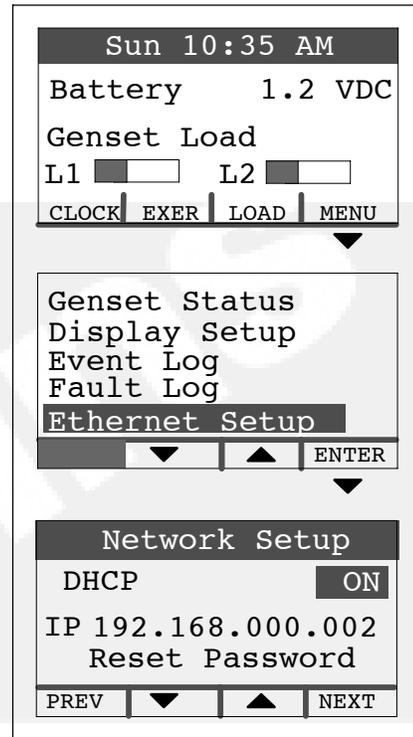

FIGURE C-2. NETWORK SETUP SCREEN ON THE IN-HOME OPERATOR PANEL
2. Write down the IP Address shown on the Network Setup screen (Figure C-2) on the generator set's in-home Operator Panel. (Note: Leave DHCP on.) Add this *Generator In-Home IP Address* to the Information Sheet located on page B-5 of the Operator Manual or page C-5 of the Installation Manual under "Internet Access to Generator Set-up Information" only if remote access to the generator is not utilized.